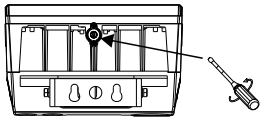

Fig. 11
- 1.) Remove the grommet on top of the housing (Fig. 11)